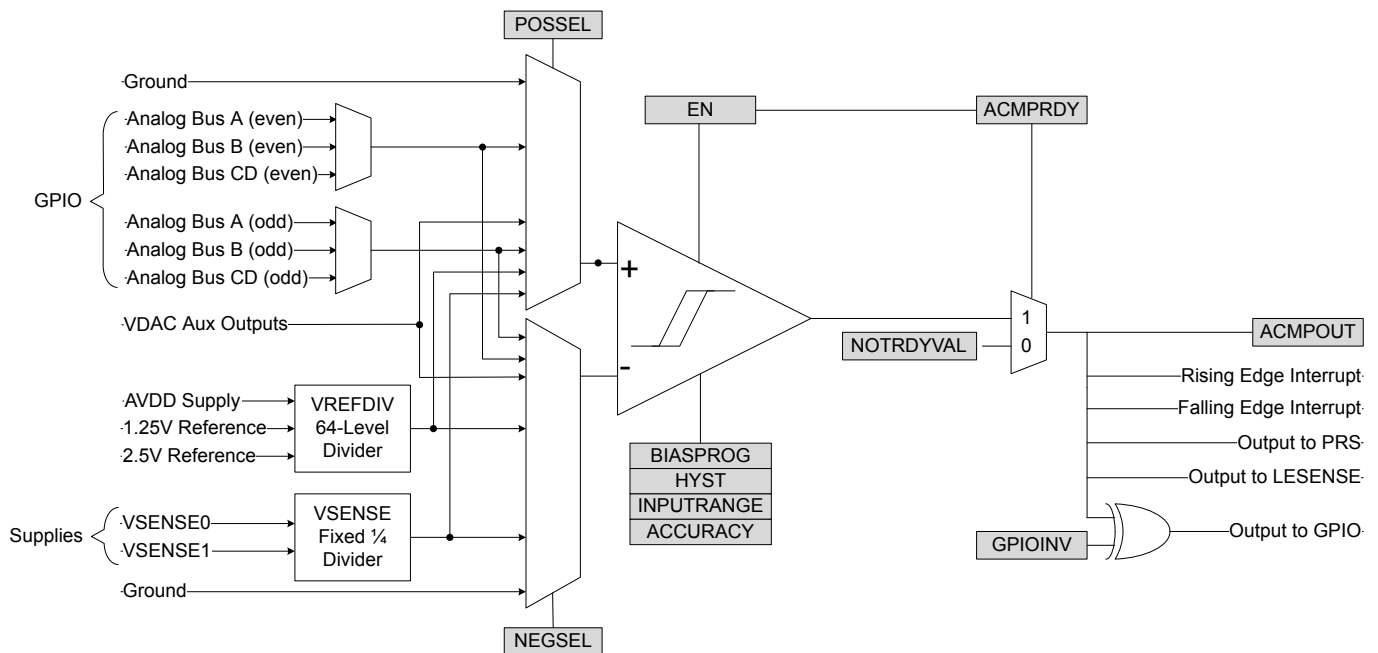

Figure 30.1. ACMP Overview
An overview of the ACMP is shown in Figure 30.1 ACMP Overview on page 1178.
The ACMP can be used to monitor supply voltages. This is done by selecting VSENSE01DIV4(LP) or VSENSE11DIV4(LP) for either POSSEL or NEGSEL. Note that the input to the comparator core will be divided by 4, as illustrated in Figure 30.1 ACMP Overview on page 1178. To reduce energy consumption, a sample/hold circuit can be used to periodically sample the power supplies. To enable this, select VSENSE01DIV4LP or VSENSE11DIV4LP in POSSEL / NEGSEL. Because the sample/hold feature uses the comparator in a non-continuous fashion, enabling this will increase response times and reduce the accuracy of the comparator. The connections between VSENSE0 and VSENSE1 to power supplies are summarized in the table below.